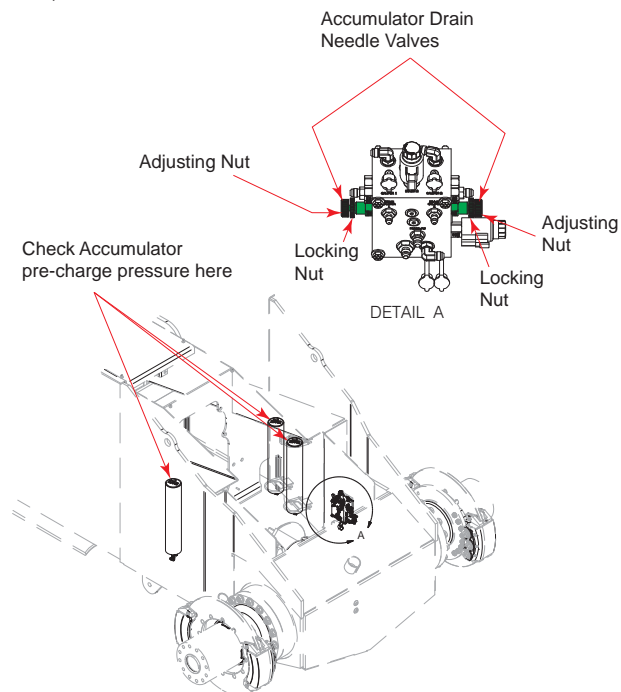

Figure 4 - Accumulators & Brake Manifold
3. Open accumulator drain needle valves on brake manifold to relieve hydraulic pressure (see Figure 4). Turn the locking nut counterclockwise (CCW) until it is against the adjusting nut. Turn the locking nut and adjustable nut CCW all the way out.
4. Verify accumulators have correct nitrogen charge of 1500 psi (see Figure 4).
5. Close accumulator drain needle valves (see Figure 4).
IMPORTANT! In order to properly close the needle valve, turn the locking nut CCW until it is against the adjusting nut. Turn the adjusting nut with locking nut clockwise (CW) until it stops. Turn the locking nut CW until it stops and is hand tight (see Figure 4).